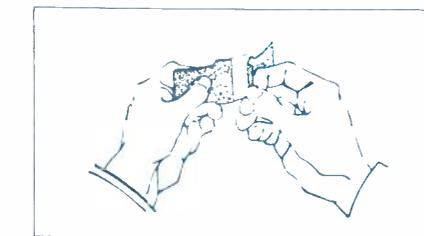

Figure 8. Removing Template Protective Covering
STEP 4. Remove template from envelope and remove back protective covering from template as illustrated in Figure 8. Replace escutcheon in envelope.